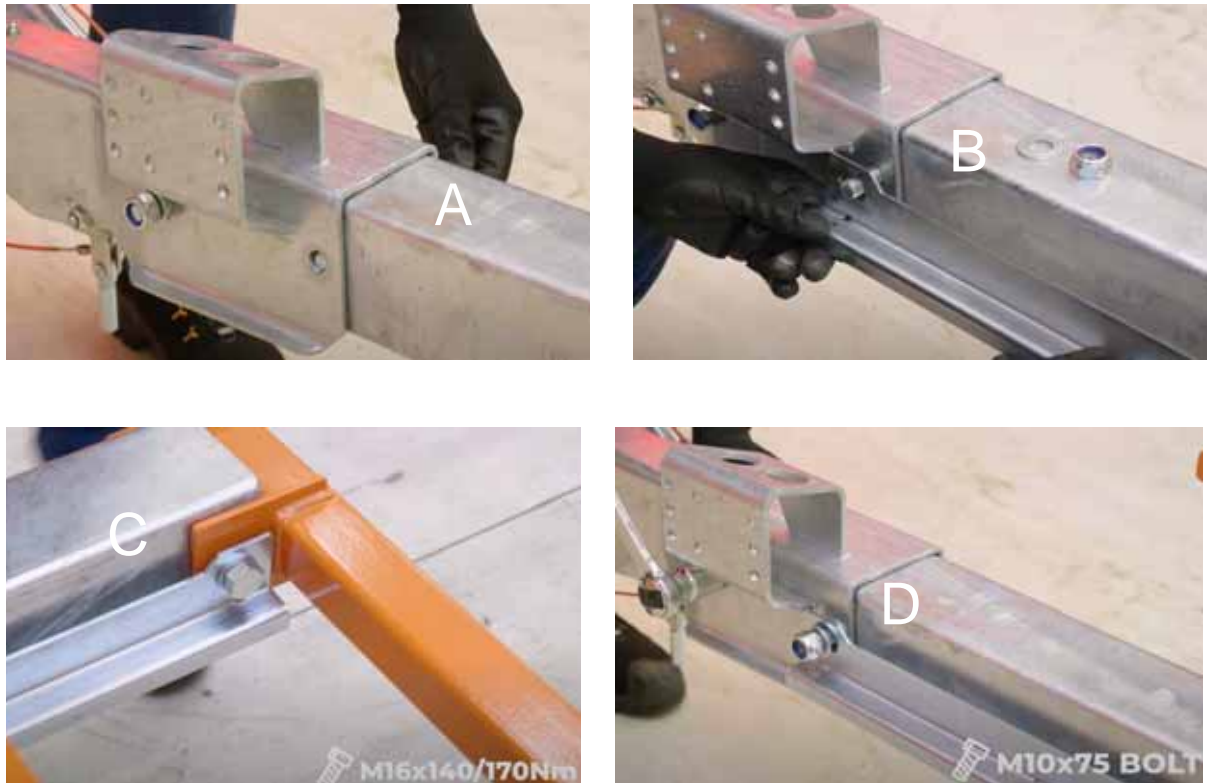

FIG. 4-26
See figure 4-26. Use M10x75 bolt to mount coupling head (A) to the drawbar. Bolt the cable duct to the drawbar with M10x75 bolt (D). Lighting cables should be routed under the cable duct (B). Bolt the cable duct to the drawbar mount bracket with M16x140 bolt (recommended torque to tighten the bolt is 125.4 ft-lbs. (170 Nm)) (C).